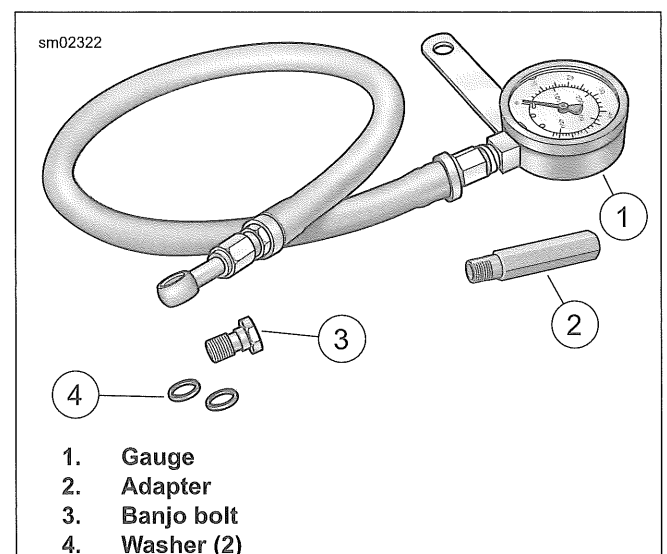

Figure 4-8. Oil Pressure Gauge Set
4. See Figure 4-8. Install OIL PRESSURE TEST GAUGE KIT (PART NUMBER: HD-96921-52D).
- a. Hand-tighten adapter (2) in oil pressure switch mounting hole.
- b. Assemble banjo bolt (3), washer (4), oil pressure gauge (1), banjo fitting and second washer onto adapter. Hand-tighten.